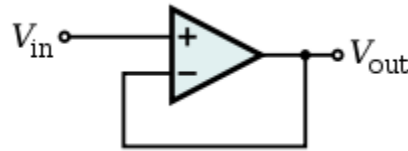

Figure B-1.
*The voltage follower:* The op-amp configuration in Figure B-1 is called a *voltage follower* or *buffer*. Note that the circuit above has no resistance in the feedback path. Its behavior is governed by the equation:  $V_{out} = V_{in}$ .